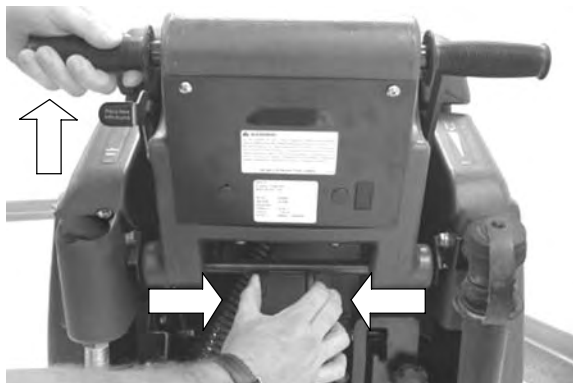

FIG. 13
1. Adjust control grips to a comfortable operating height (three settings). Squeeze two levers together, located under console, to raise and lower control grips (Figure 13).